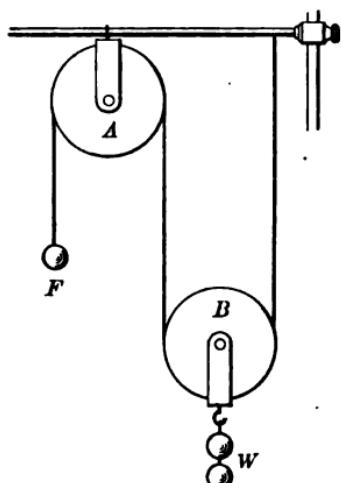

FIG. 85
1. *Pulleys* have been mentioned already. A single pulley is useful only in changing direction, as we learned (§ 89). Two pulleys may be arranged, however, as in Fig. 85. The weight W is attached to B , which is called a *movable pulley*. Now B is held in a loop of the string,